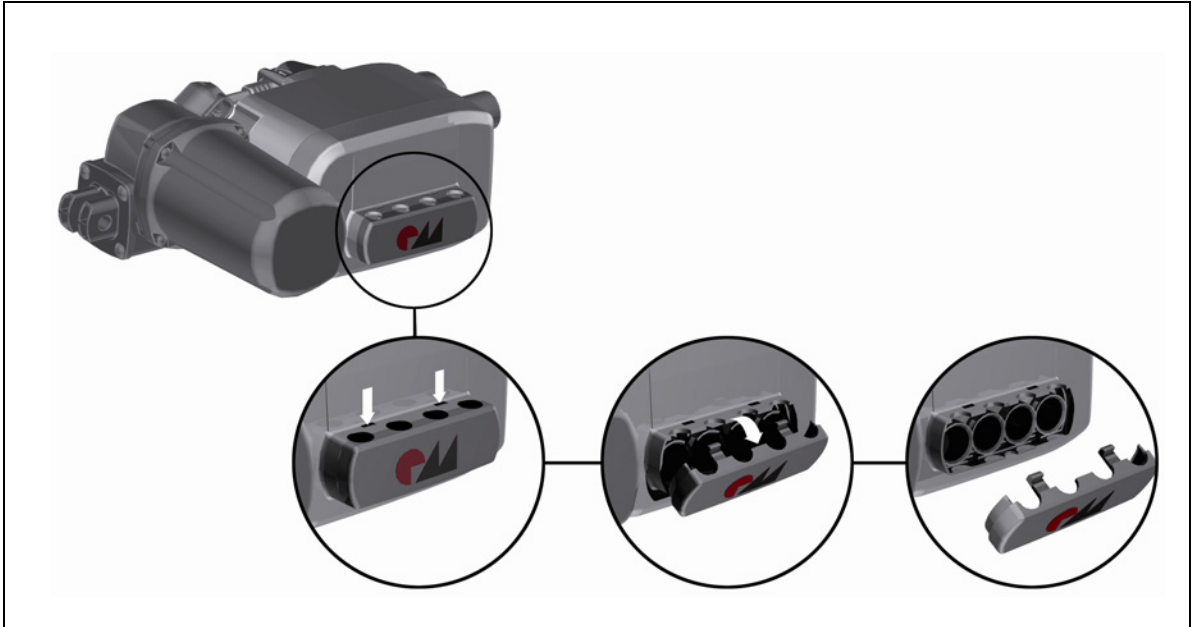

Figure 9 Opening the shield cover on the MC10 control unit
- 2 Use a suitable tool to press both locking clips down in the notches as shown in Figure 9. At the same time, tilt the shield cover forward so that the clips come out of the notches.
- 2 Open and remove the shield cover (refer to Figure 9).